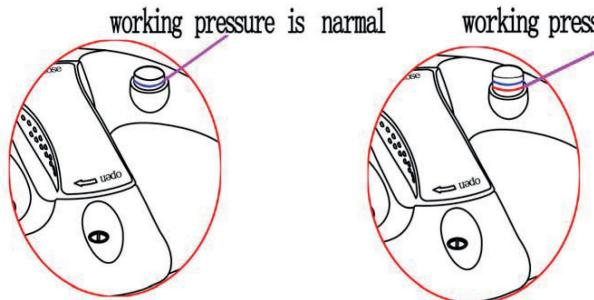

Fig 7
3. Setting pressure indicator, it will be easy to know the pressure inside and set user's heart at rest. (Fig 7)